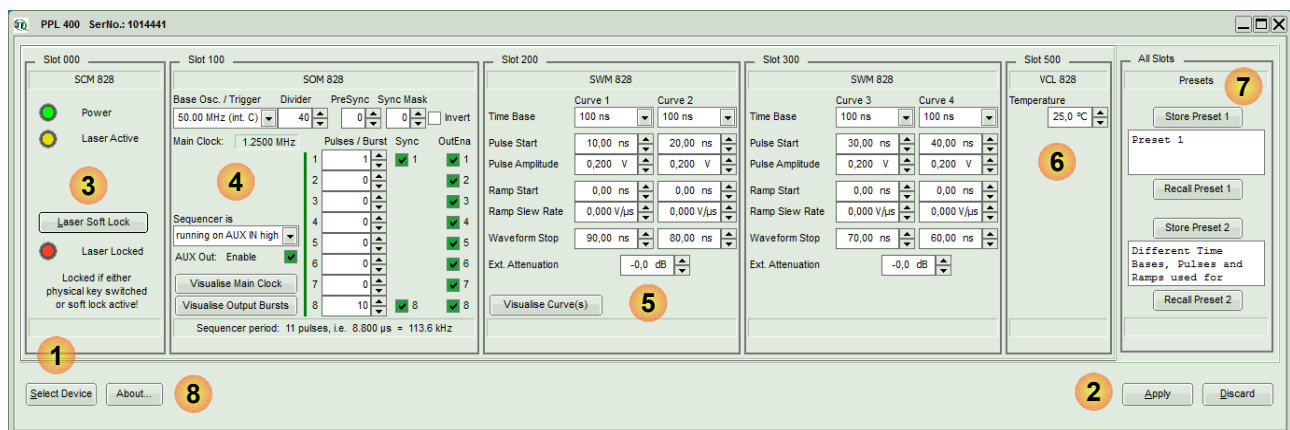

Fig. 20: PPL 400 GUI - overview of all control groups with indication of the individual sections
- The main GUI panel of the PPL 400 system will appear, including control panels for all modules present in the mainframe (refer to fig. 20 in Chapter 5).
An overview of the GUI with all control elements is shown in fig. 20 below. The GUI displays only the control elements for the modules that are included in the mainframe and detected during the initialization of the hardware. The example shows the GUI for a PPL 400 mainframe equipped with the controller module SCM, the oscillator module SOM 828-D, two waveform generator modules SWM 828, and a laser module VCL 828.